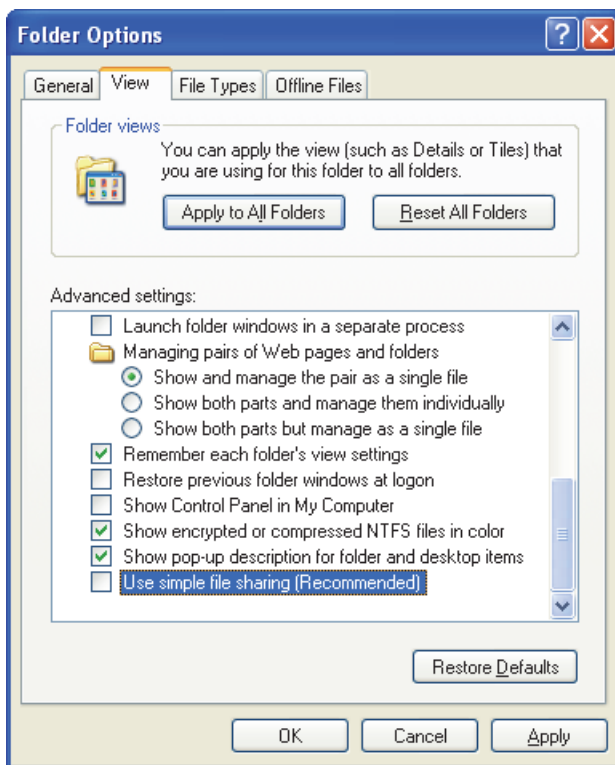

Figure 14-9 The Folder Options dialog box (Windows XP)
The **Folder Options** dialog box appears (see Figure 14-9 on page 291).
- d) Clear the **Use simple file sharing** check box (see Figure 14-9 on page 291).